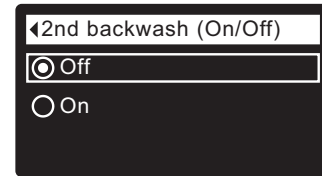

FIG. 132
- 8b. **Second backwash (On/Off):** If the desired option already has a dot next to it (See Figure 132), go to Step 9. Otherwise, press the DOWN (▼) or UP (▲) buttons to scroll to the other option, then press SELECT (O) to choose it. Setting this feature On adds a second backwash and rinse at the beginning of the recharge cycle. Default is Off. Set this feature On if your water supply contains a lot of sediment or iron.